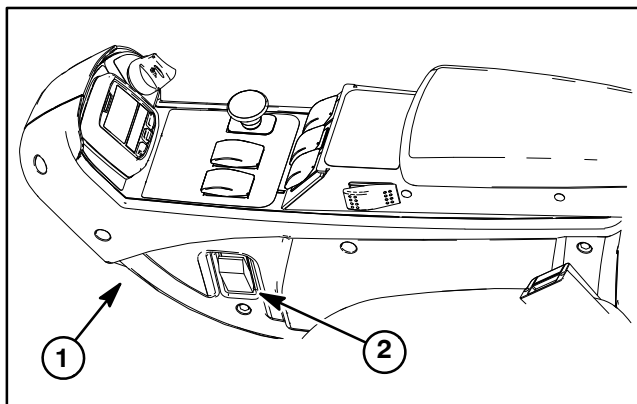

Figure 34
The headlight switch is located on the operator side of the console arm (Fig. 34). This two (2) position rocker switch allows the headlights to be turned on and off.